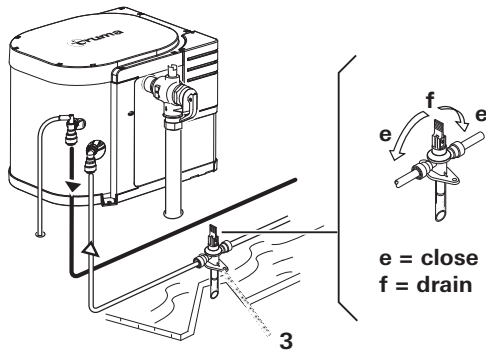

Fig. 2
- Close drain valve (Fig. 2 - 3).
- Open drain valve (Fig.2 - 3).
- The drain valve (Fig. 2 - 3) and the P&T safety valve (Fig. 2 - 4) are to be operated regularly to remove lime deposits and to ensure that they are not blocked. Frequency: every 6 month.